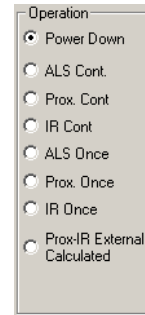

FIGURE 11. OPTICAL SENSOR OPERATING MODE SELECTION
- From the menu shown in Figure 11 on the left of the GUI, choose a specific device “Operation” in which you would like the device to operate. Detailed explanation of the operating modes can be found in the datasheets of the individual devices. Table 1 summarizes the different modes.